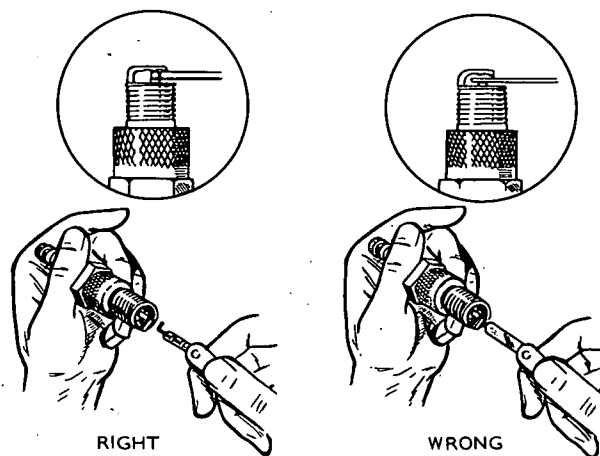

FIGURE 13. SETTING SPARK PLUG GAPS
- Wrong gap setting (Figure 13).